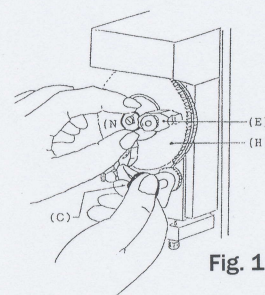
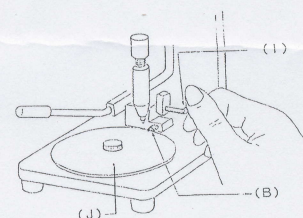
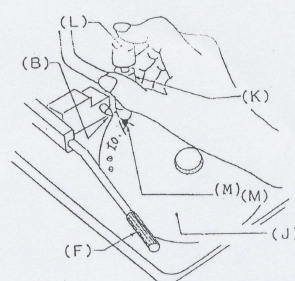
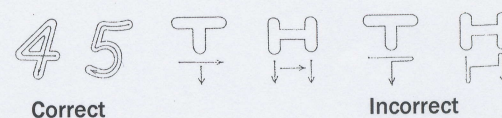

Fig. 1
Fig. 4
Fig. 5
Fig. 6
1. Before engraving, decide on the starting position of the first character according to the stone, carat mark, etc. on the ring (N). To do so, rotate the ring in the fibre jaws (E) by raising the lever (F) as far as the stop of the adjusting screw (R). The lever is shown in Fig. 1 and Fig. 4 (F).
2. The template (J) is released by pushing forward the release lever (I) as illustrated in Fig. 1 and Fig. 5. Turn the dial either clockwise or counter clockwise with your left hand and lock the first character to be printed on the dial in front of the stopping pin (B) see Fig. 6. Push down the lever (F) to bring the diamond cutter (O) into contact with the inside of the ring and press down on the stylus cap (L). Once this is done, trace the grooves of the character on the template with the tip of the stylus (M) as shown in Fig. 6.